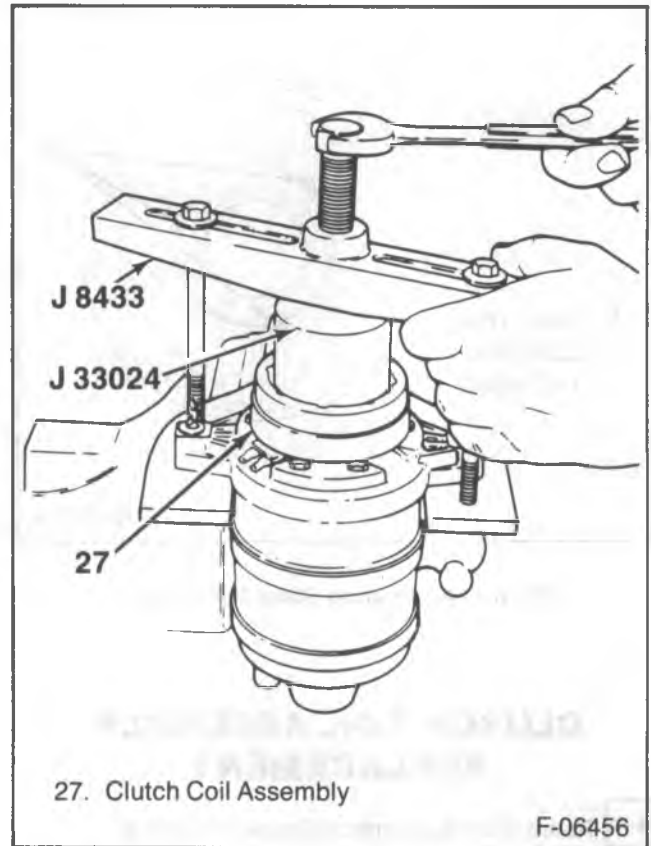

Figure 17—Installing the Clutch Coil Assembly
1. Clutch coil assembly (27) onto the front head (33) with the terminals positioned at the "marked" location.
- J 33024 over the internal opening of the clutch coil assembly (27) (figure 17).
- Be sure J 8433 and the clutch coil assembly (27) stay "in line" during installation.
- When the clutch coil assembly (27) is seated on the front head, use a 3 mm (1/8-inch) diameter drift punch to stake the head (33) at 3 places, 120 degrees apart to assure the clutch coil